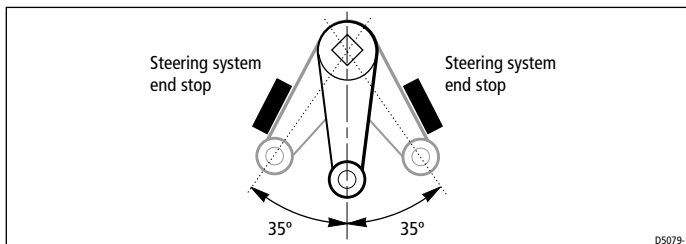

Figure 7: Total rudder movement
- The total rudder movement is limited to +/- 35 degrees by the steering system end stops rather than the linear drive’s end limits (see *Figure 7*).